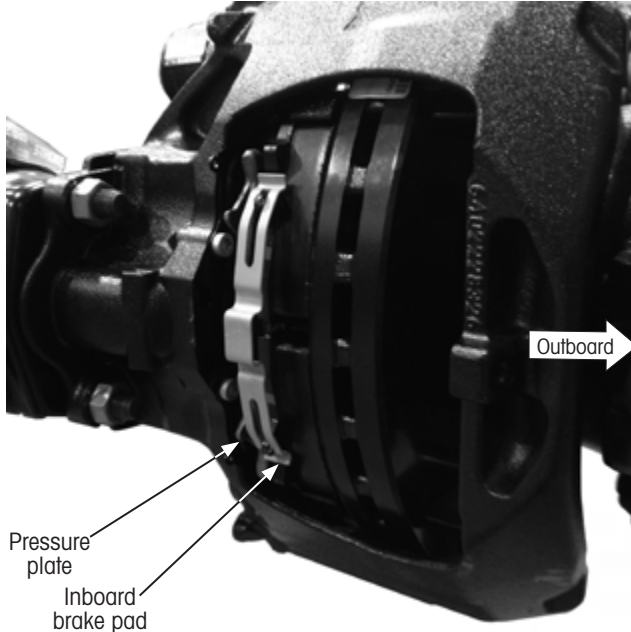

Figure 32: Inserting new brake pad, inboard
5. **Insert** the inboard brake pad (Figure 32).
6. **Manually push** the brake caliper outboard until the inboard brake pad contacts the rotor (Figure 32).